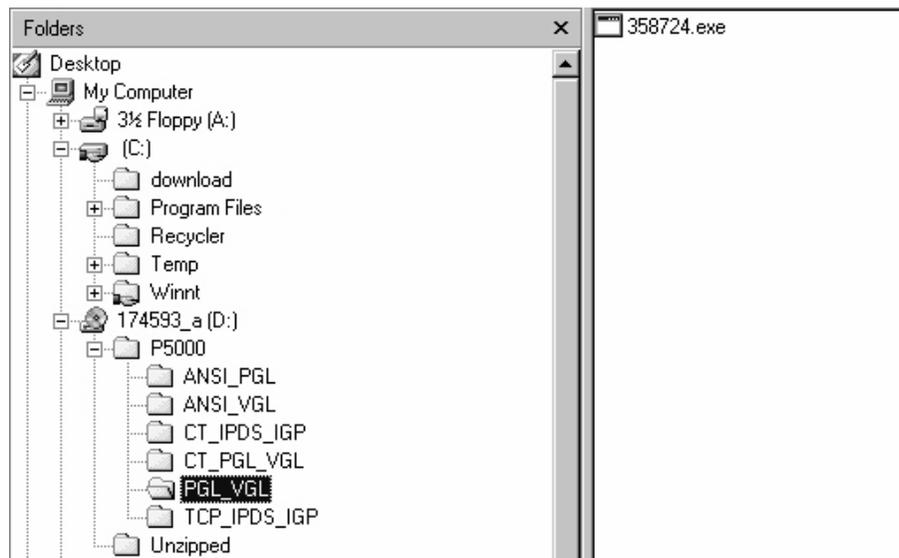

Figure 18. Navigating to the Appropriate Emulation File on the CD
16. Using Windows Explorer, navigate to the appropriate file on the CD based on the printer model number and desired emulation, e.g., P5000 ▶ PGL_VGL. (See Figure 18.)